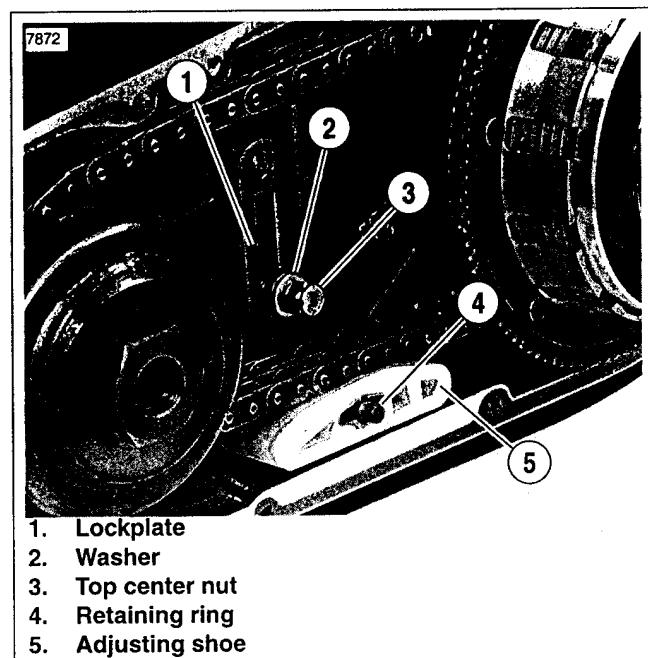

Figure 6-16. Chain Tensioner Shoe
2. See Figure 6-16. Verify chain tensioner shoe is resting on bottom lip of primary chaincase.
3. Remove retaining ring (4) and discard.